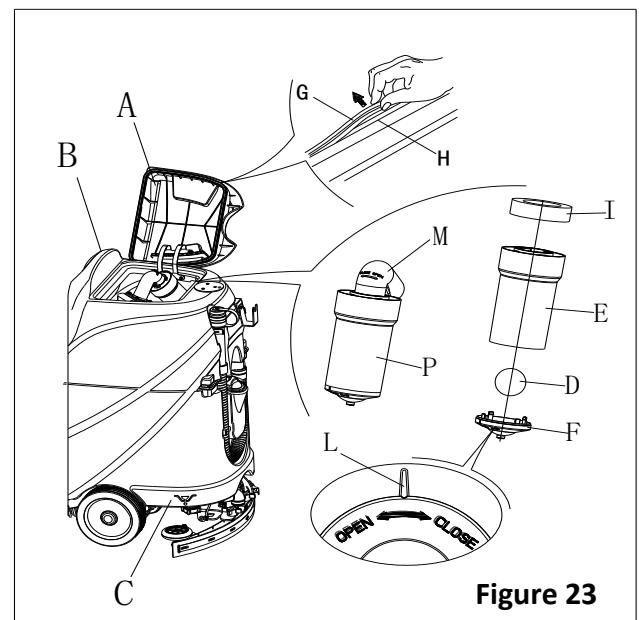

Figure 23
2. Ensure that the machine is off and the ignition key (40) has been removed.
3. Turn the recovery tank lid (A, Figure 23) 90 degree position where it can be took off from the tank, and then take down the float ball filter (P) from the tank.
4. Clean the recovery tank lid (A), recovery tank (B), clean water tank (C) and the float ball filter support frame (E). Empty the recovery tank with the drain hose (15).
5. If necessary, follow the symbols “OPEN” and “CLOSE” as shown in Figure 23 to open the bottom cover (F) of float ball filter and then clean the float ball (D), filter support frame (E) and filter sponge (I). After cleaning, fix the float ball (D) into the filter support frame (E) and then align the mark groove (L) of the bottom cap (F) of the float ball filter with the mark groove (L) of the float filter support frame (E). Screw the bottom cap of the float ball filter tight, and fix the filter sponge (I) onto the float filter support frame (E). Finally, connect it to the sewage suction hose (M).
7. Check whether the contact surface of sealing strip (G) is integrity and sealing is sufficient. If necessary, take the sealing strip of the tank out of the groove (H) and replace it. Assembly the new sealing strip as shown in Figure 23, the joint should be back in the middle area.
8. Close the recovery tank lid (A).